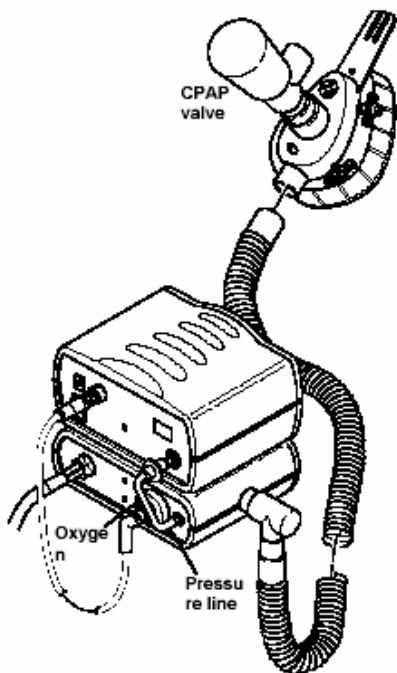

Figure 3. Whisperflow 2 and Criterion 60, dual-port mask
1. Select a sealing face mask or endotracheal (ET) tube as the patient connection. Ensure that the mask fits comfortably, seals the bridge of the nose, and fully covers the nose and mouth.
3. Assemble the circuit according to Figures 3 through 7, depending on the mask, oxygen analyzer, and humidifier used. As you assemble the circuit, please note:
7. Once the Whisperflow 2 and Criterion 60 are attached, connect the oxygen sensor and pressure line as shown in Figures 3, 5, or 7.